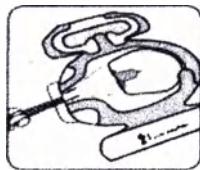

Figure 2
2. Place the dressing so the transparent film covers the insertion site and the border of the dressing covers the single plastic arm on the device. **Figure 2**